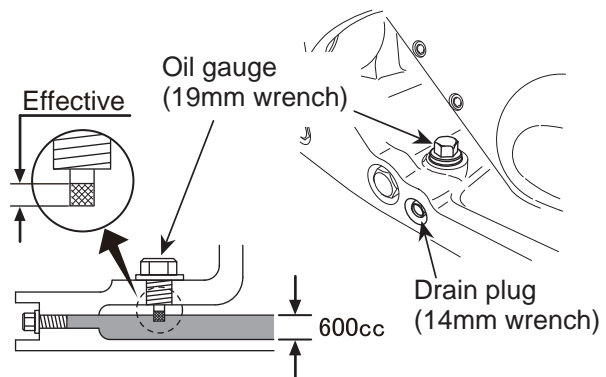

Figure 10. Vibrator Oil Check
2. Check vibrator oil level by removing the oil plug (vibrator oil gauge) as shown in Figure 10. Clean the oil gauge and re-thread back in. Remove the oil gauge again and confirm oil level does not exceed the cross hash of the oil plug. **DO NOT OVERFILL!**